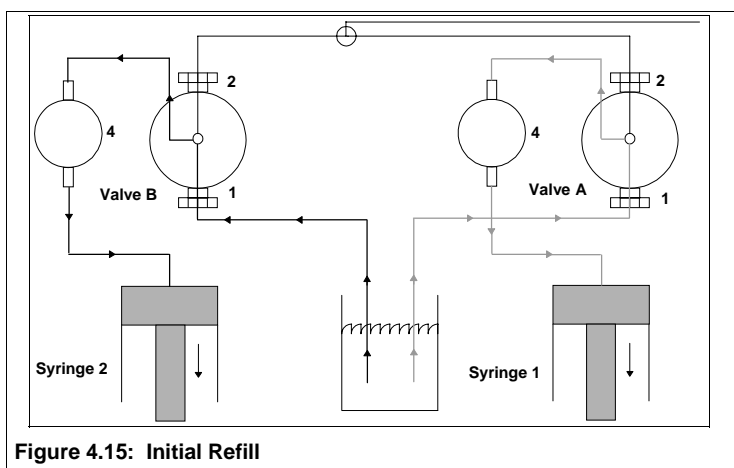

Figure 4.15: Initial Refill
Figure 4.15 illustrates the flow schematic when the syringe refills. When the syringe piston retracts to refill, fluid is pulled from the solvent reservoir to the syringe through the inlet valve (1).